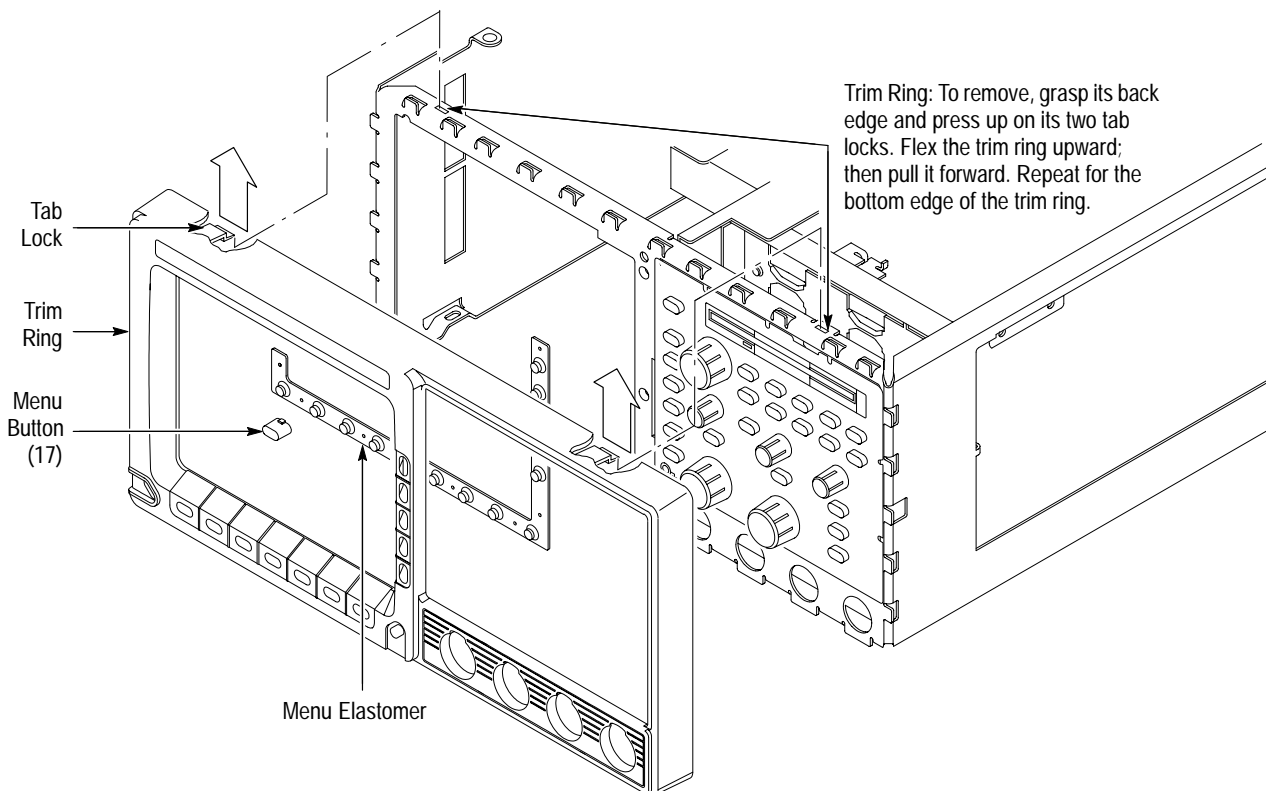

Figure 6–8: Trim Ring, Menu Elastomer, and Menu Buttons Removal
- b. Locate the modules to be removed in the locator diagram *Cabinet and Front-Panel Mounted Modules*, Figure 6–2 on page 6–16.